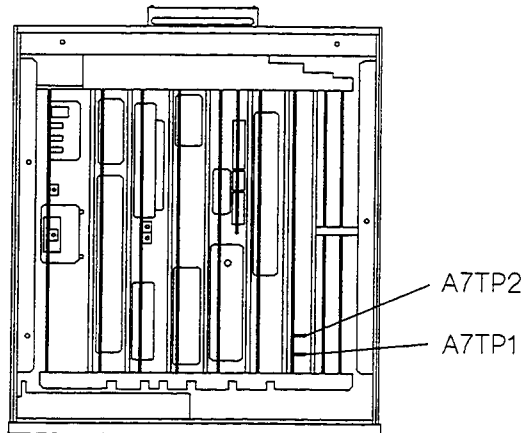

Figure 1-29. A7TP1 and A7TP2 Location
5. Connect TP2 (GND) on the A7 digital control board to the TP2 (GND) on the simulator board. Then connect TP1 on the A7 board to TP1 (5 V or Vcc) on the simulator board. Figure 1-29 shows the locations of A7TP1 and A7TP2.